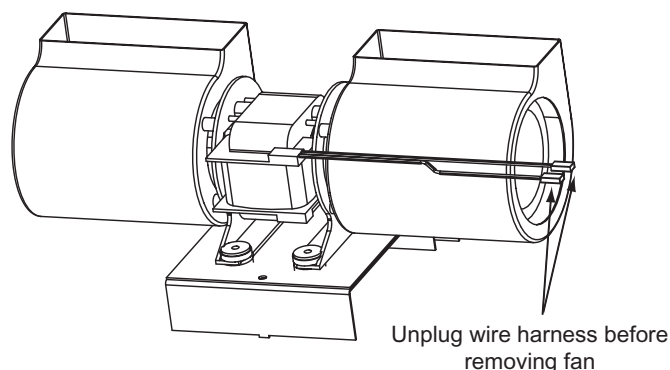

Figure 30B-Fan Motor
2. Lift fan off of studs and remove. Repeat for second fan if necessary. See Figure 30B.